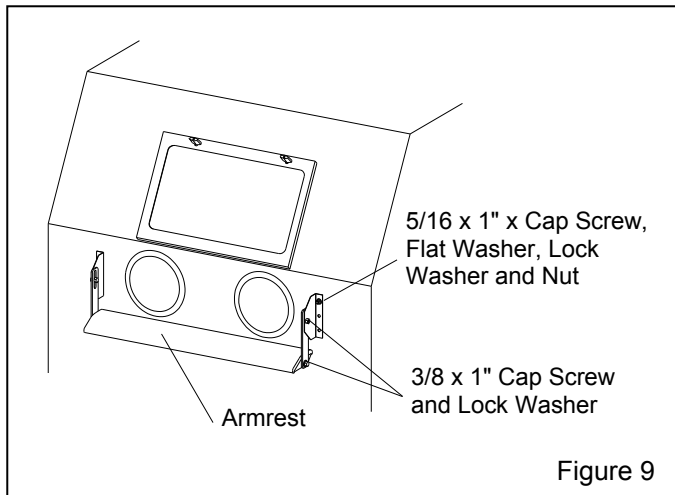

Figure 9
**3.4.1** Assemble the armrest and mounting brackets as shown in Figure 9.